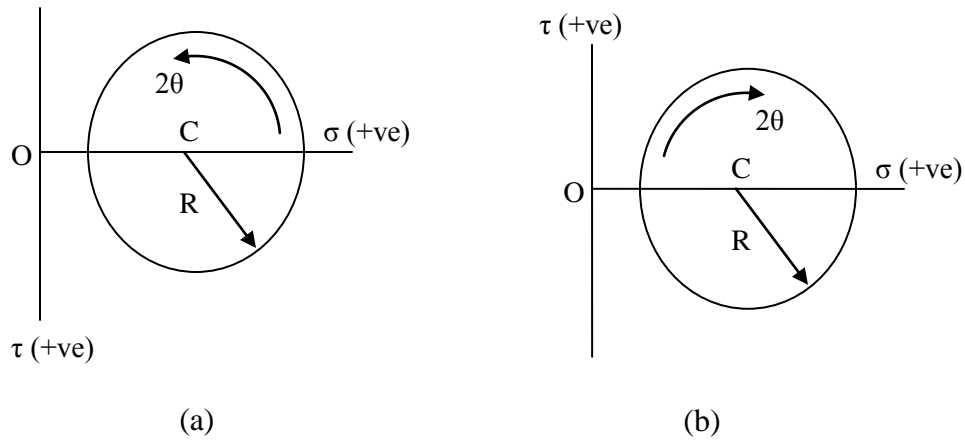

Figure 1.19: The rotation of Mohr's circle
- (a) Consider σ positive to the right and τ positive downward (orientation θ counter clockwise positive). Refer Figure 1.19(a)
- (b) Consider σ positive to the right and τ positive upward (orientation θ clockwise positive). Refer Figure 1.19(b)